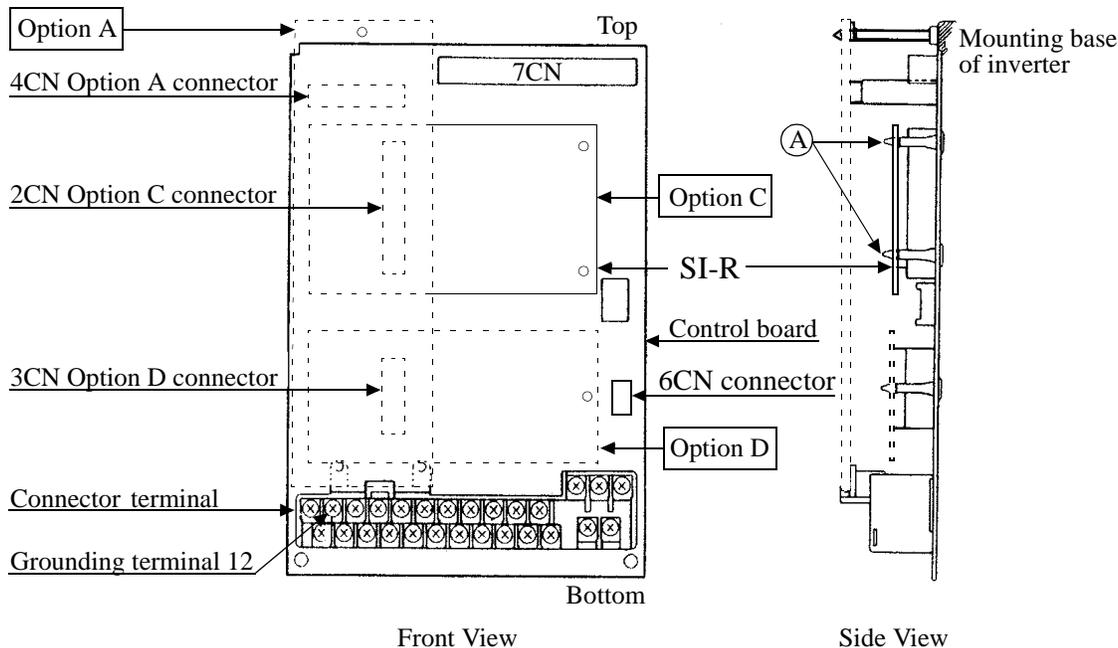

Fig. 2 Installation of the InterBus-S Control Card SI-R
6. Plug the 2CN connector of the InterBus-S Control Card SI-R into the 2CN connector (60 pins) on the control board of the inverter as illustrated in Fig. 2 below. Gently push the SI-R card until the stand-off posts engage the two holes on the option card. Secure the SI-R card. (See part (A) of the side view below).